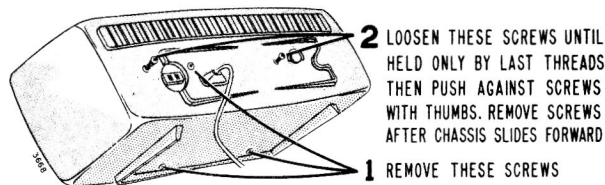

Figure 2. Rear View of Cabinet Showing Chassis Mounting Screws.
1. Tilt cabinet forward and remove the two screws located on the bottom of cabinet. Also remove the center screw on the back. (The one just above the line cord socket.) See Figure 2.